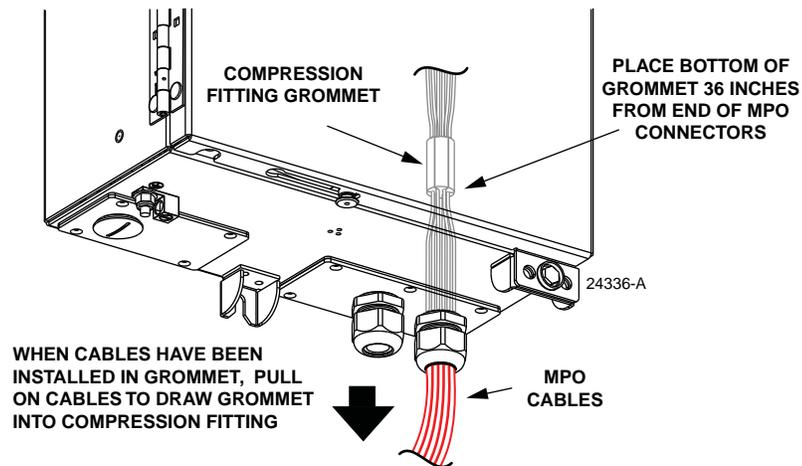

Figure 44. Install MPO Cables in Grommet
6. Place each MPO cable into one of the slots in the compression fitting grommet as shown in Figure 44. Place bottom of grommet 36 inches from the end of the MPO connectors.